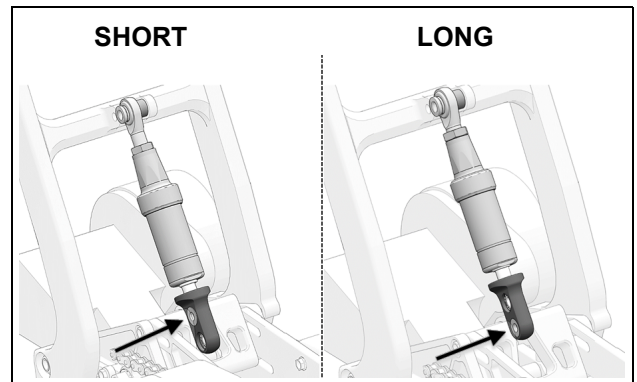

Figure 24
- The Soft Strut can be mounted in two positions, allowing two sets of lengths as needed to fit different bike models. See Figure 24.